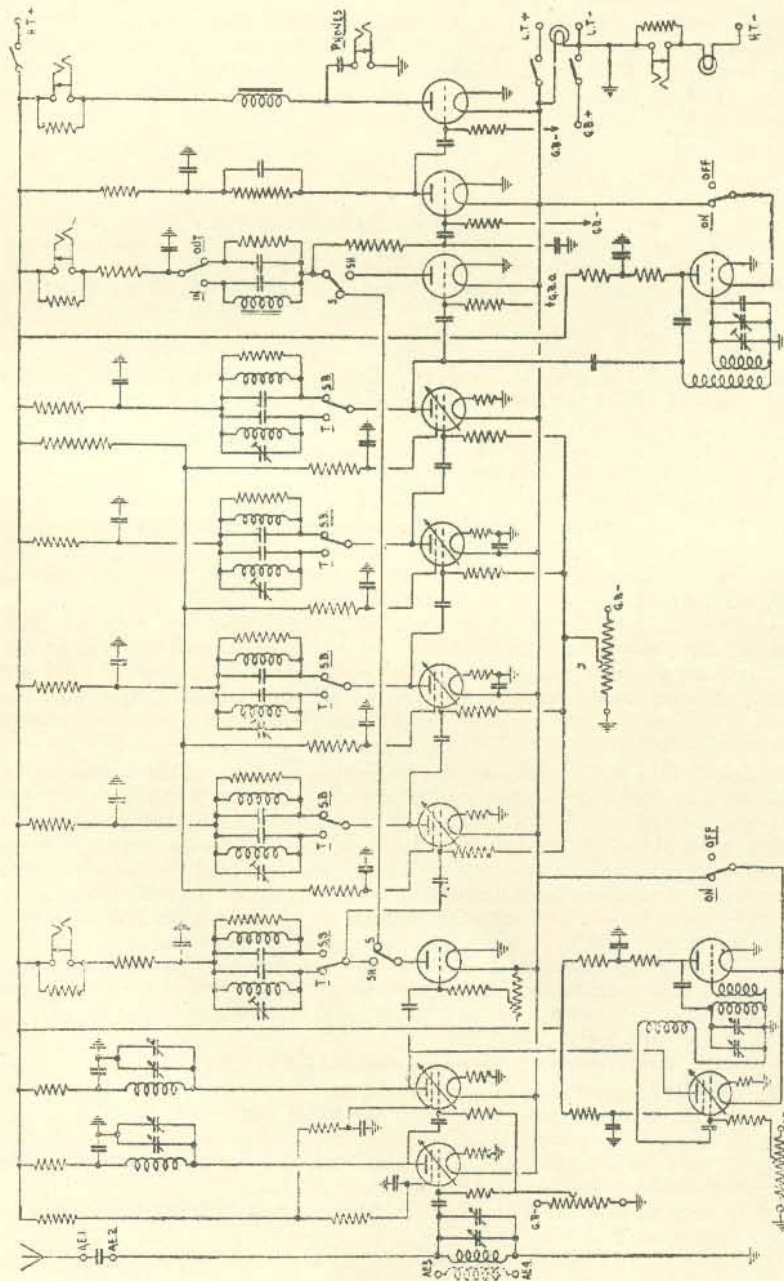

FIG. 79.—Receiver R.1084.
6. **Circuit.**—A schematic diagram is shown in fig. 78 and a complete circuit diagram in fig. 79:—